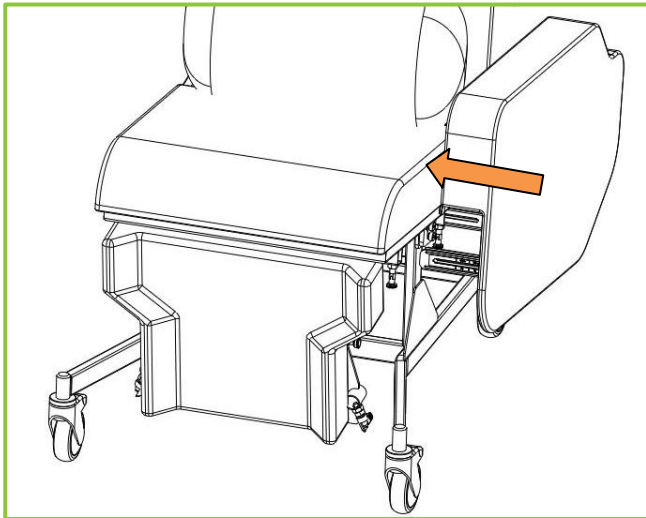
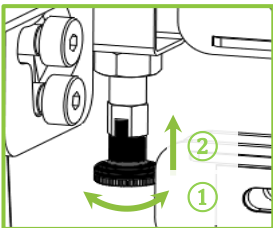

Figure 10
Figure 11
14. Locate the two sidepiece fixing bars into the chair frame. Push the sidepiece all the way in (Fig 10) and release the plunger by rotating it until the cap engages with the base (Fig 11).
7. Pull the plunger out, rotate 90 degrees and let go to lock the plunger in position (Fig 11).